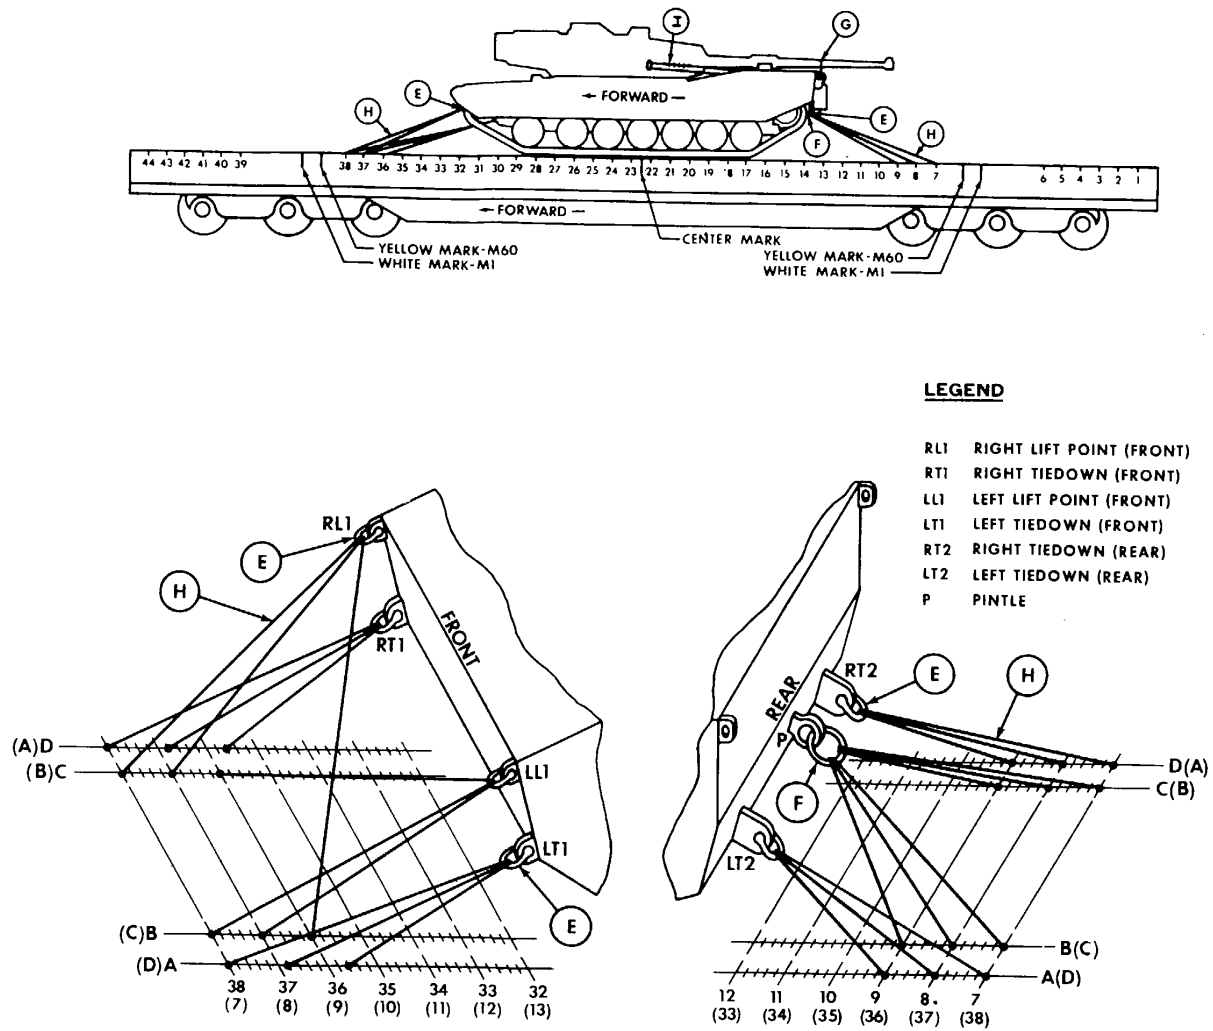
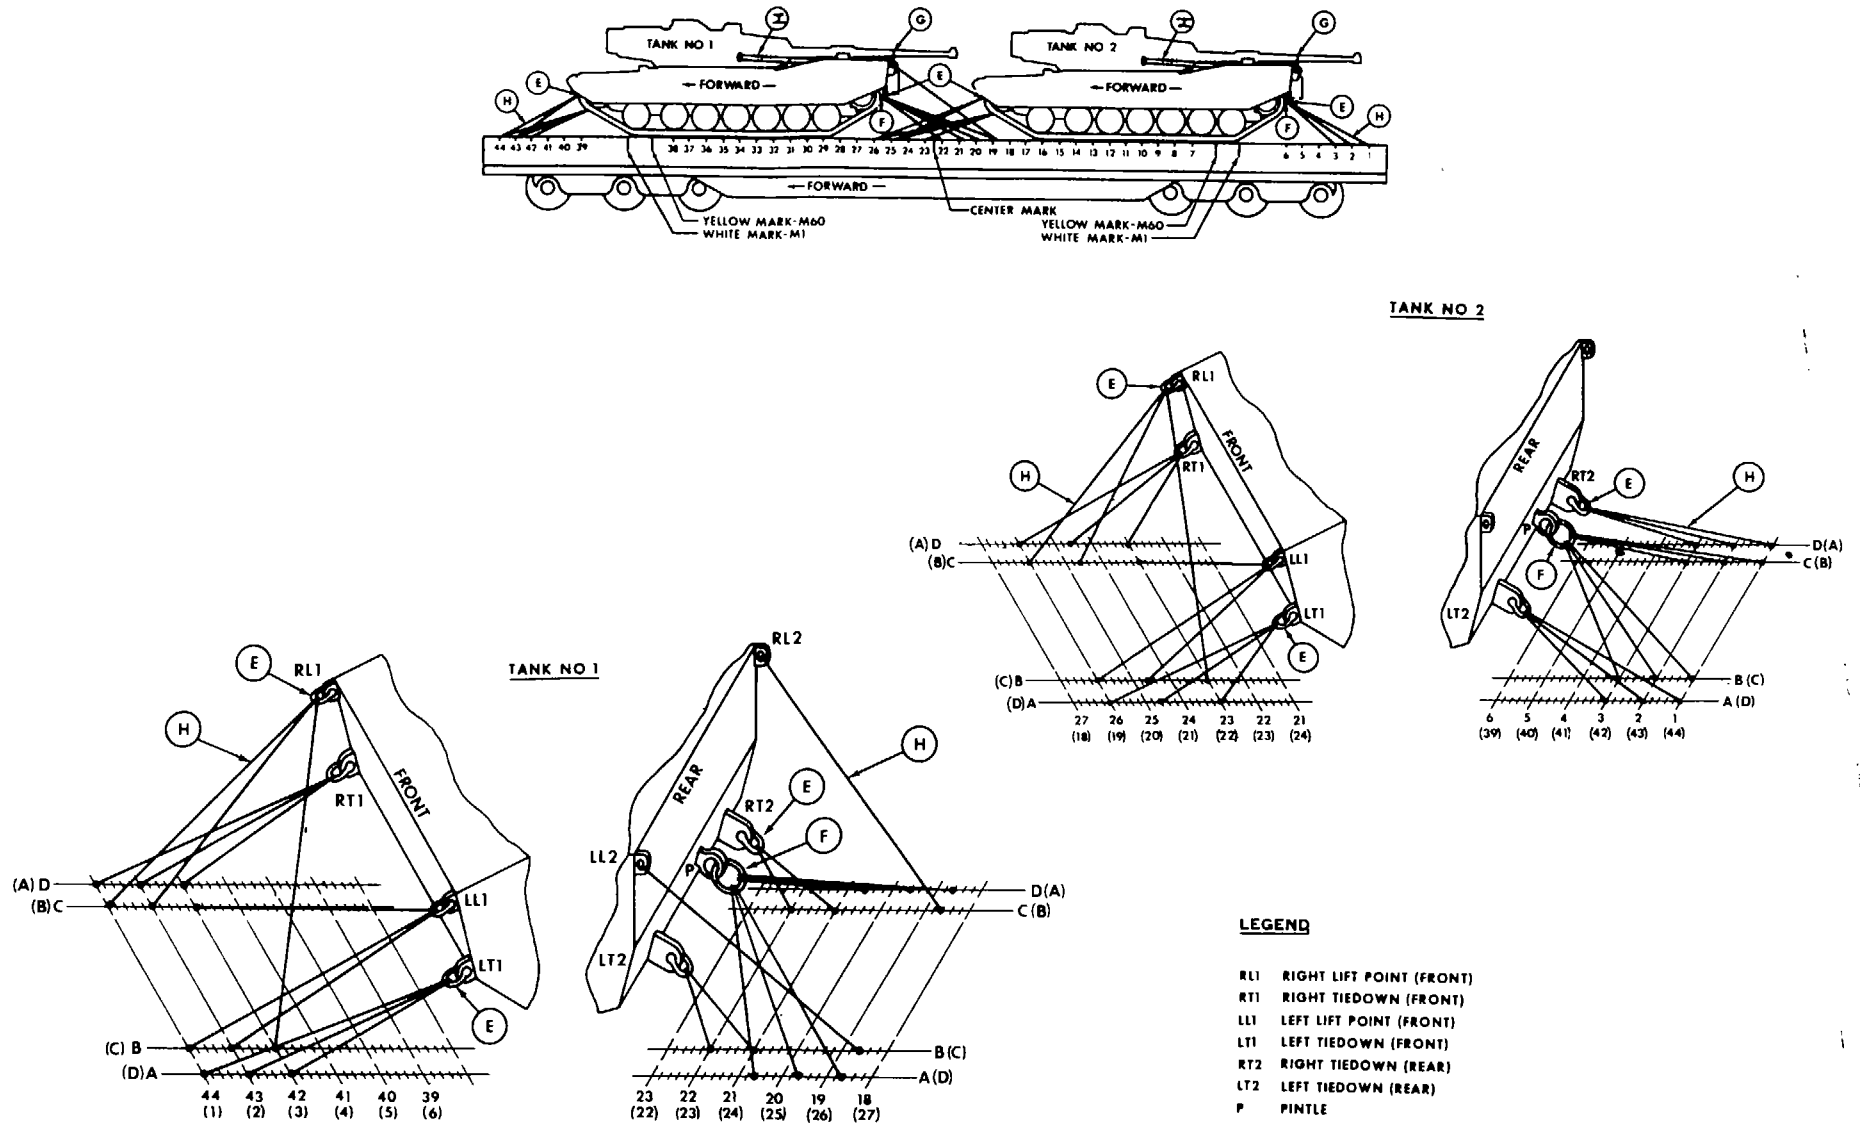

Figure 4-1. Chain tiedown arrangement for one M1 tank
Figure 4-2. Chain tiedown arrangement for two M1 tanks facing the same direction.
a. A single M1 tank can be loaded onto the flatcar either by being driven onto the car over an end-loading ramp or by being lifted onto the car with a crane or cranes of at least 70to 75-ton capacity. The tank must be centered on the car, with the hub of the fourth left roadwheel positioned over the white mark on the side sill at the center of the car and with about equal overhang of the tank tracks on both sides of the flatcar. A difference of 1 inch between the left-side and right-side overhang is the maximum permitted by many railroad load inspectors. The chain tiedown arrangement for a single M1 tank is shown in figure 4-1. The bill of materials required to secure each M1 tank on the flatcar is provided in table 4-1. The application of materials and chain tiedowns for a single M1 tank is explained in table 4-2. If the tank is loaded facing the opposite direction from that shown in figure 4-1, apply the chain tiedown arrangement as explained in table 4-4.
b. Two M1 tanks can be loaded onto the flatcar by being driven or lifted onto the car. Both tanks must be centered over the centerline of the car so that the track overhang is about equal on both sides. Tank No. 1 must be positioned so that the front of the left front roadwheel is lined up behind the white mark on the front side of the car. Tank No. 2 must be positioned so that the rear of the left rear roadwheel is lined up behind the white mark at the other end of the car. These positions are depicted in figure 4-2. When driven or lifted onto the flatcar, both tanks will be facing the same direction and secured as shown in figure 4-2. The application of chain tiedowns for two M1 tanks facing the same direction is explained in table 4-3. Front, rear, and between-tanks chain arrangements are shown in figures 4-4 through 4-6, respectively. If one or two M1 tanks are loaded facing the opposite TM 55-2220-05814 direction from that shown in figures 4-1 and 4-2, the chain tiedowns for one tank will be applied as explained in table 4-4; or for two tanks, table 4-5.
Table 4-2. Application of Materials for Securing One M1 Tank (Fig 4-1 )
**Table 4-3. Application of Materials for Securing Two M1 Tanks Loaded Front to Tail (Fig 4-2)**
**Table 4-4. Application of Materials for Securing One M1 Tank Facing the Opposite Direction from that Shown in Figure 4-1. (For location of "items, " refer to figure 4-1.)**
**Table 4-5. Application of Materials for Securing Two M1 Tanks Facing the Opposite Direction from that Shown in Figure 4-2. (For location of "items, " refer to figure 4-2.)**
**Table 4-5. Application of Materials for Securing Two M1 Tanks Facing the Opposite Direction from that Shown in Figure 4-2. (For location of "items, " refer to figure 4-2.)-Continued**